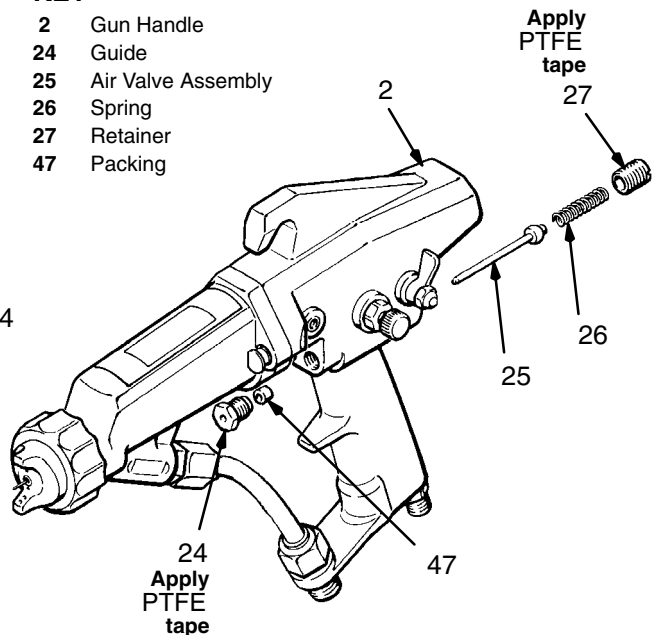

Fig 21
1. Using a screwdriver, remove the retainer (27), spring (26), and air valve (25). See Fig 21.